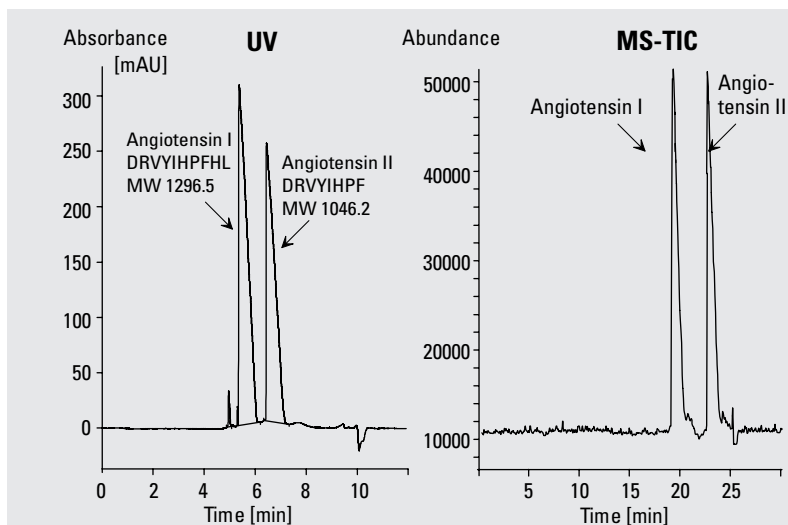

Figure 30
- plastic UV capillary interface to allow tandem UV/MS detection (figure 30).